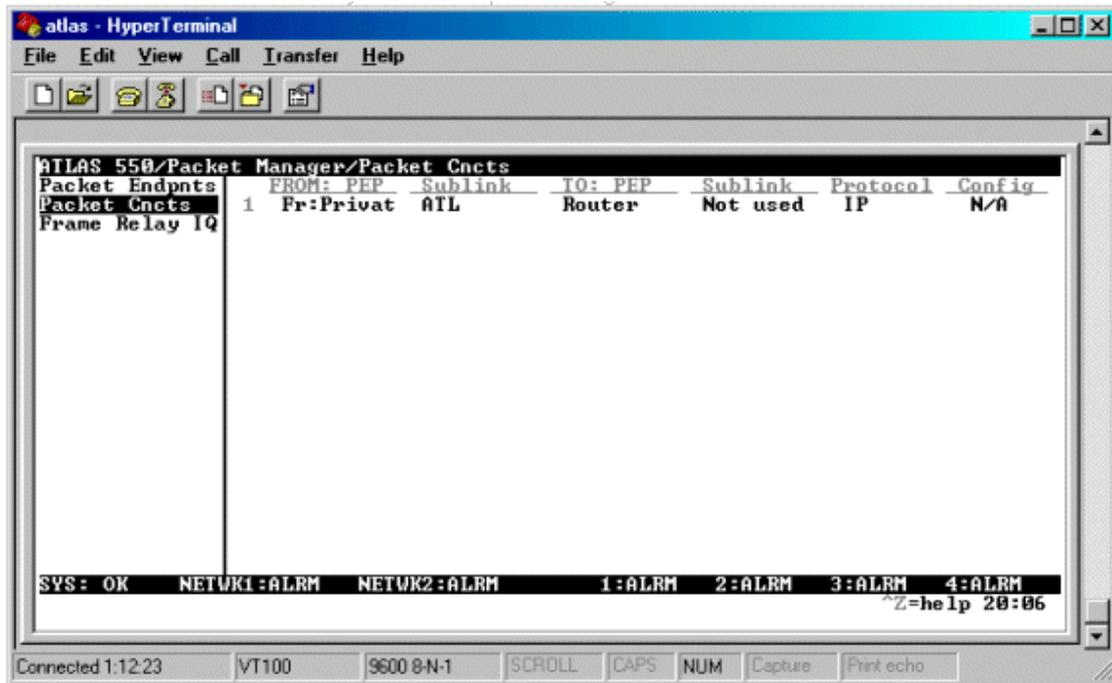

Figure 7
After the packet endpoint is created and configured with the appropriate DLCIs, the endpoint needs to be linked. In this example, we will be using the ATLAS' internal router. This configuration will require a packet connect from the endpoint, *Atlanta* sublink, to the internal router (see Figure 7).
6. Press <enter> on **Protocol** and select **IP** as shown in **Figure 7**.